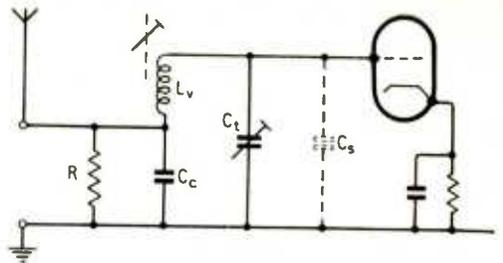

Fig. 5. Permeability-tuned aerial circuit.
(b) *Permeability-tuned Circuits*: Equation (3) also shows why this coupling system is especially suited for many applications of permeability-tuned aerial input circuits. One example is a car-radio design where an efficient coupling of the rather inefficient car-aerial was carried out by this method (see Fig. 5). With $C_a = 68$ pF, $C_c = 90$ pF, $C_t + C_s = C = 100$ pF, and the circuit Q varying between 20 and 40 over the band, the aerial step-up over the band was between 5.35 and 7.9. Thus with permeability-tuned circuits, and especially in applications (e.g., car-aerial installations) where the designer need not provide for much possible variation in C_a , a low value of C_c can be used to obtain good aerial gains even with low- Q aerial coils. It should be noted, however, that in mobile installations the equivalent series resistance of the aerial can, in some cases, become an important limiting factor in the determination of maximum obtainable aerial circuit gain.